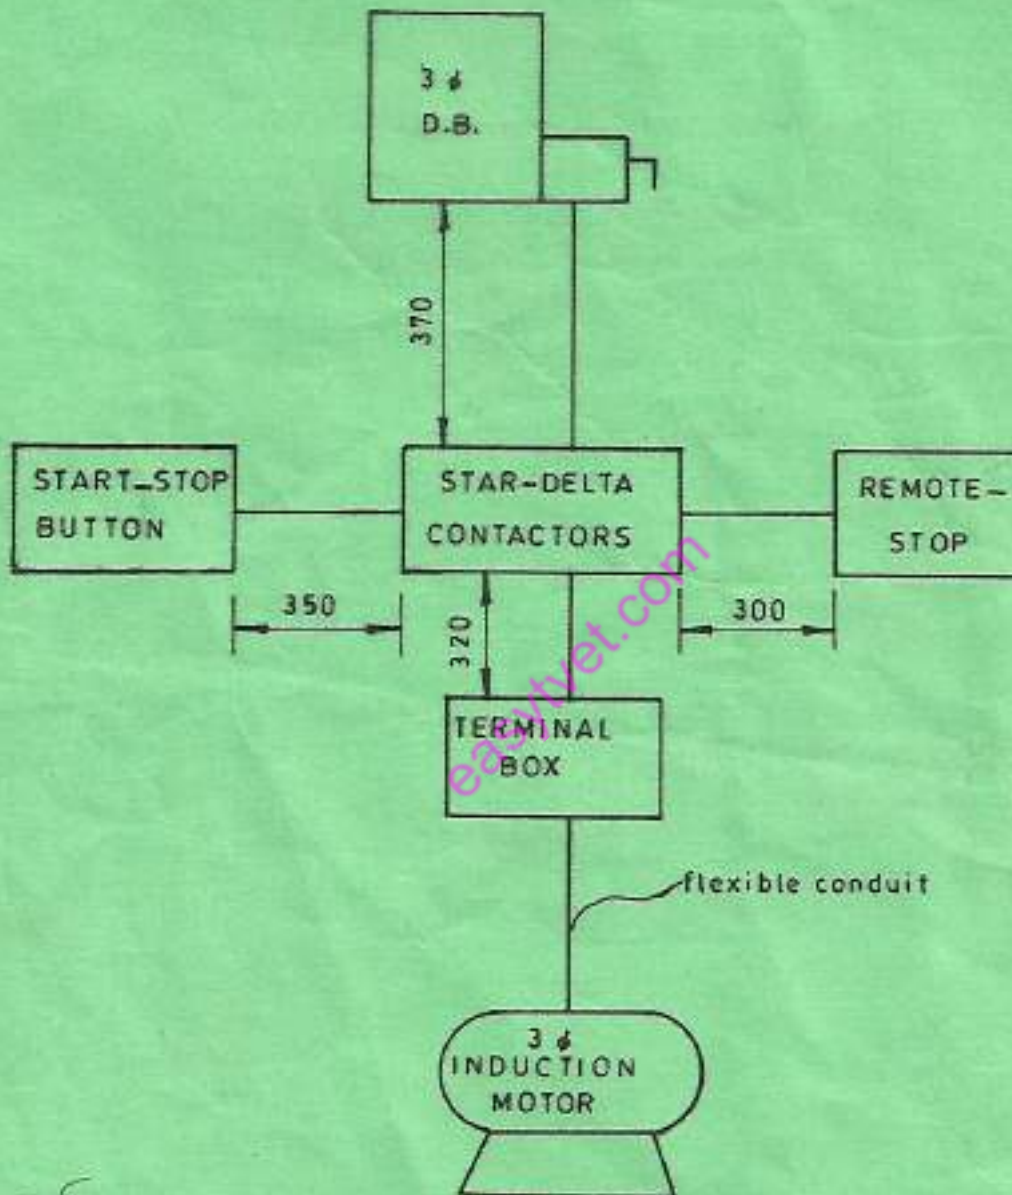

Fig. 1
1. **Figure 1** shows the layout of a 3-phase induction motor installation to be wired using heavy gauge PVC conduit wiring system.